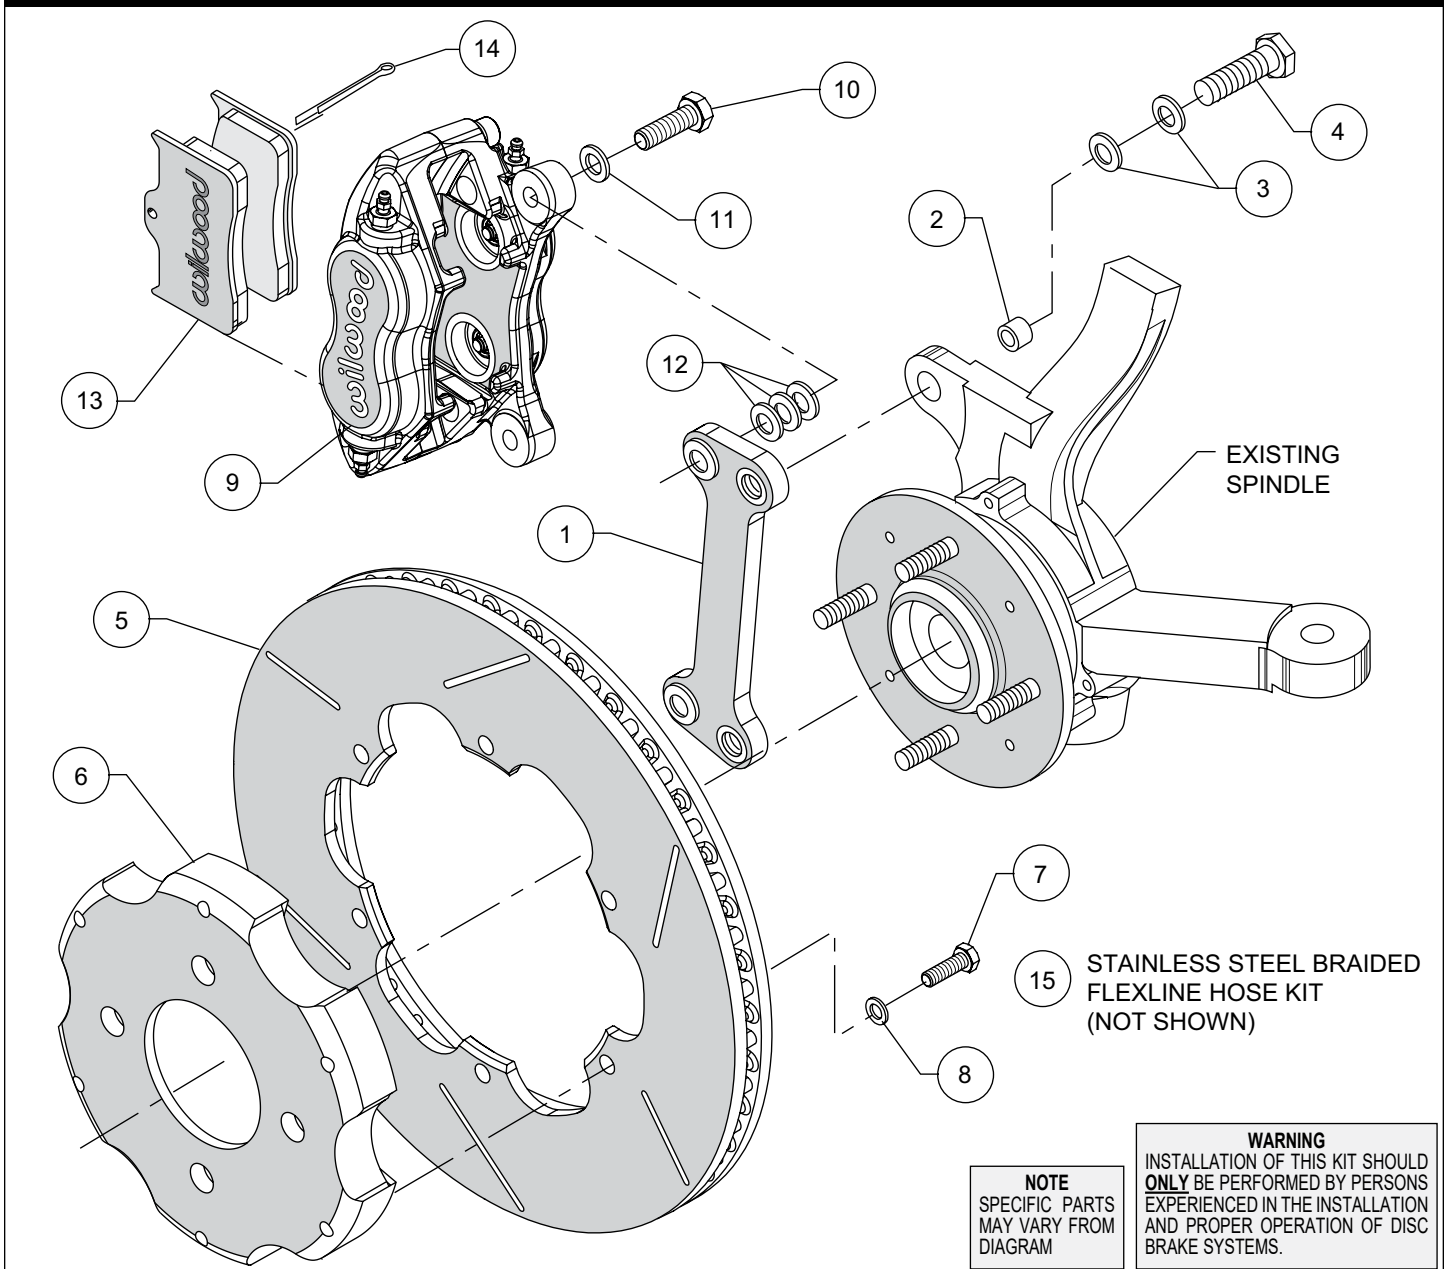
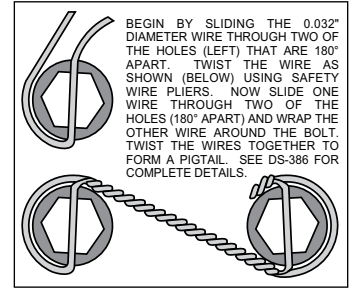
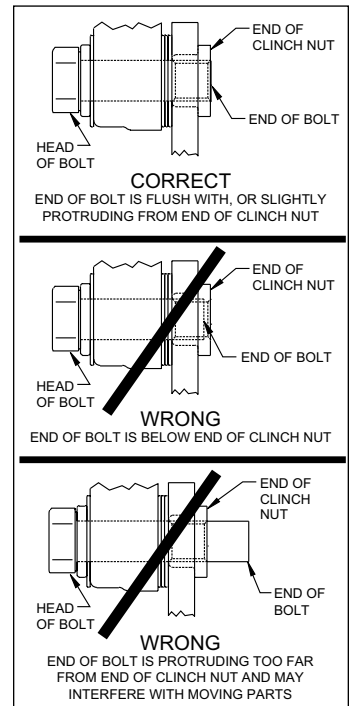

Figure 1. Typical Installation Configuration, Left Hand Application Shown
Figure 4. Safety Wire Diagram
Figure 5. Clinch Nut Engagement Diagram
**NOTE:** Numbers in parenthesis refer to the parts list and Figure 1 on the preceding pages.
**CAUTION:** All mounting bolts must fully engage clinch nuts. Be sure to check that all bolts are either flush or protruding through flanged side of clinch nut after shimming, Figure 5.
- Insert sleeves (2) into each of the two bracket mounting holes on the spindle "ears", Figure 1. Orient the caliper mount bracket (1) as shown in Figure 1, and install using bolts (4) and two washers (3). Ensure that the flanged heads of the clinch nuts in the bracket are facing outboard. Temporarily tighten the mounting bolts. **NOTE:** The bracket must fit squarely against the mount bosses on the upright. Inspect for interference from casting irregularities, machining ridges, burrs, etc. Remove bolts one at a time, apply red *Loctite*® 271 to the threads and torque to 40 ft-lb.
- Orient the rotor (5) and the hat (6) as shown in Figure 1 and Photo 1. Attach rotor to hat using bolts (7) and washers (8). Apply red *Loctite*® 271 to the bolt threads and torque to 25 ft-lbs using a criss-cross pattern. Safety wire bolts using standard 0.032 inch diameter stainless steel safety wire as shown in Figure 4. Please refer to Wilwood's data sheet DS-386 (available at [www.wilwood.com/Pdf/DataSheets/ds386.pdf](http://www.wilwood.com/Pdf/DataSheets/ds386.pdf)) for complete safety wire installation instructions.
- NOTE:** Please reference the caution statement at the beginning of the assembly instructions. Mount the caliper (9) onto the caliper mounting bracket (1) using bolts (10) and washers (11), as shown in Figure 1. Initially place three .035" thick shims (12) on each bolt between the caliper and the bracket, Photo 2. Temporarily tighten the mounting bolts and view the rotor (5) through the top opening of the caliper. The rotor should be centered in the caliper, Photo 3. If not, adjust by adding or subtracting shims between the bracket and the caliper. Always use the same amount of shims on each of the two mounting bolts. **NOTE:** The end of each bolt must be flush with or slightly protruding from the head of the clinch nut, as shown in Figure 5. If necessary place spare shims
using standard 0.032 inch diameter stainless steel safety wire as shown in Figure 4. Please refer to Wilwood's data sheet DS-386 (available at [www.wilwood.com/Pdf/DataSheets/ds386.pdf](http://www.wilwood.com/Pdf/DataSheets/ds386.pdf)) for complete safety wire installation instructions.